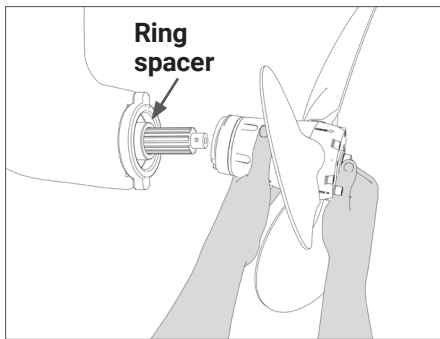

FIG. 1 | How to insert the propeller on the Sail-Drive shaft
- Engage the complete propeller assembly onto the shaft of the Sail-Drive leg (**Fig. 1 and 2**) and hold it in place before fixing.